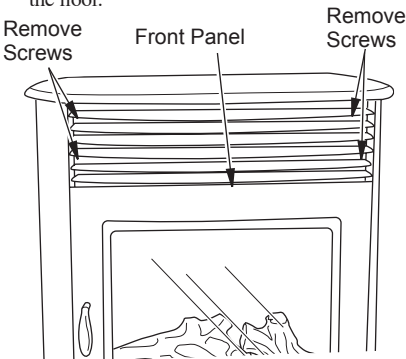

Figure 4 - Stove Front Panel Removal
2. Remove the four screws in front of the unit that secure the grill to the main frame (see Figure 4).